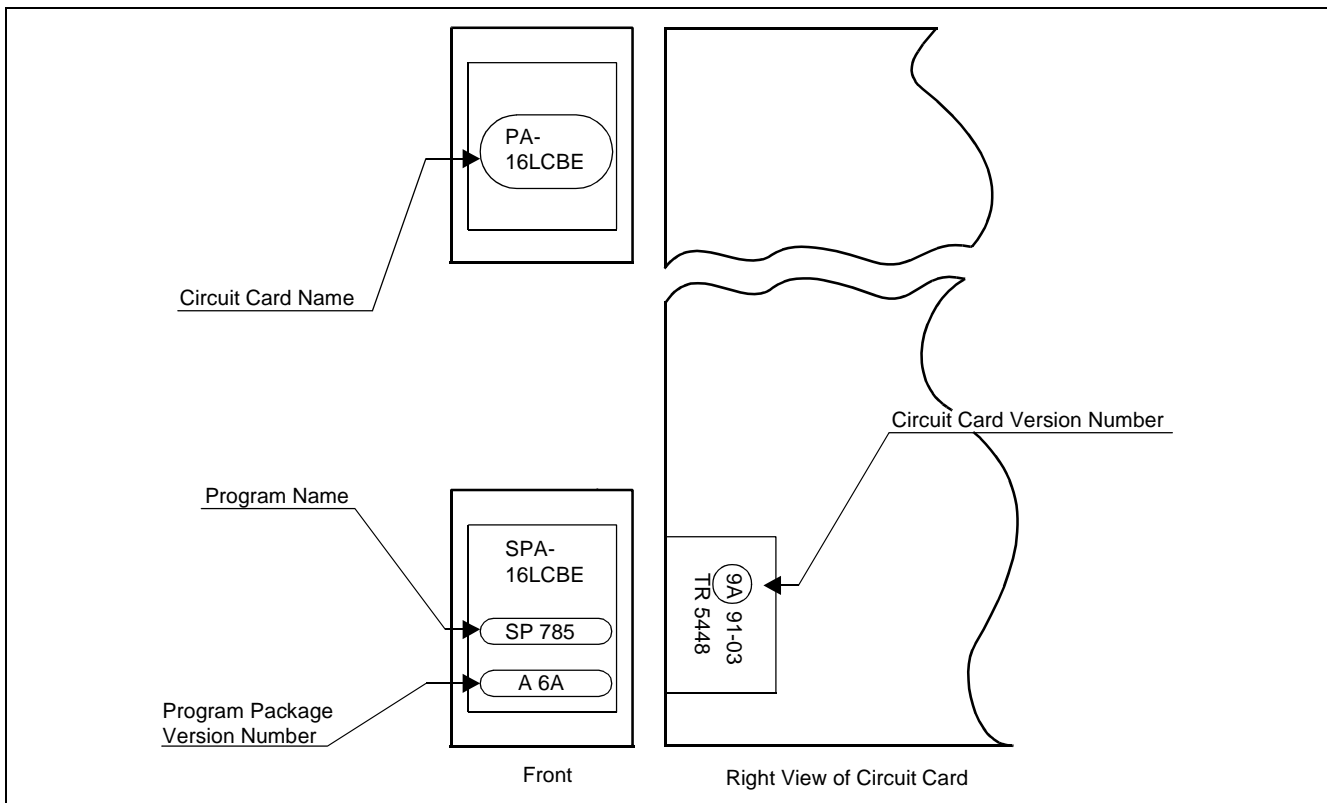

Figure 2-26 Circuit Card Version Number, Program Name, and Program Package Version Number
- (2) Circuit Card Version Number, Program Name, and Program Package Version Number of the circuit card. See Figure 2-26.